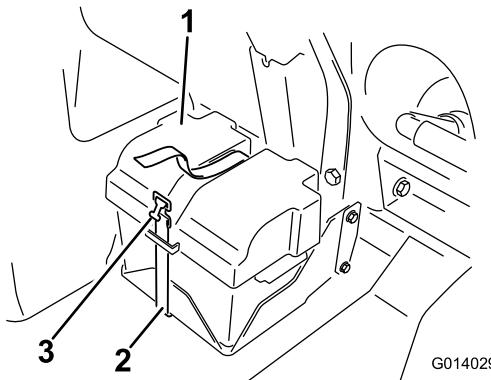

Figure 84
- Remove the battery cover and disconnect the negative (black) ground cable from the battery post (Figure 84).
4. Install the battery cover and secure it with the strap that you removed previously (Figure 84).